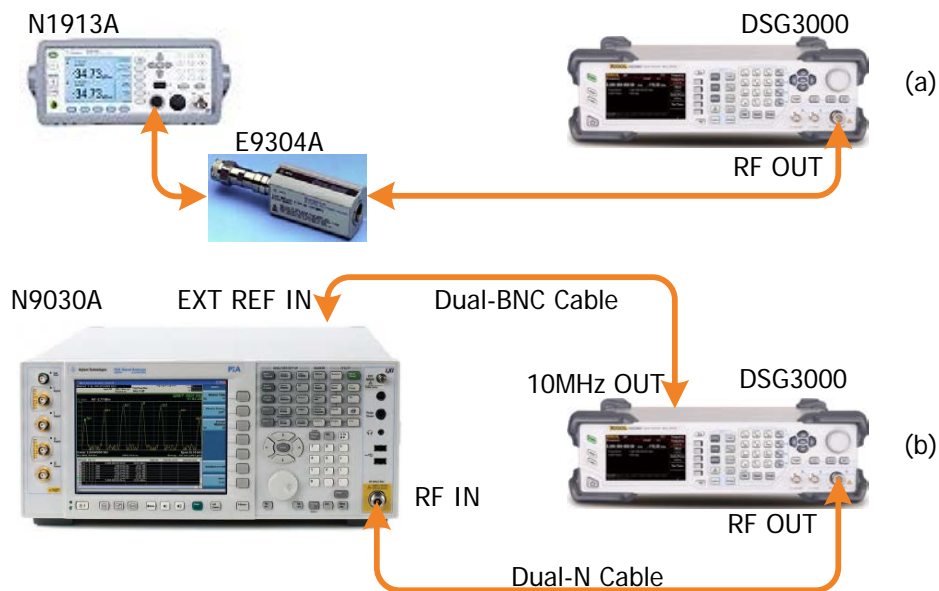

Figure 2-3 Amplitude Accuracy Test Connection Diagram
2. Connect the output terminal of the DSG3000 with the power sensor, as shown in Figure 2-3 (a).
6. Connect the output terminal of the DSG3000 with the input terminal of the signal analyzer using dual-N cable as shown in Figure 2-3(b).
11. Keep the connection shown in Figure 2-3 (b) unchanged, press **Mode Preset** to restore the signal analyzer to its factory setting and set the output amplitude of the DSG3000 according to Table 2-3.